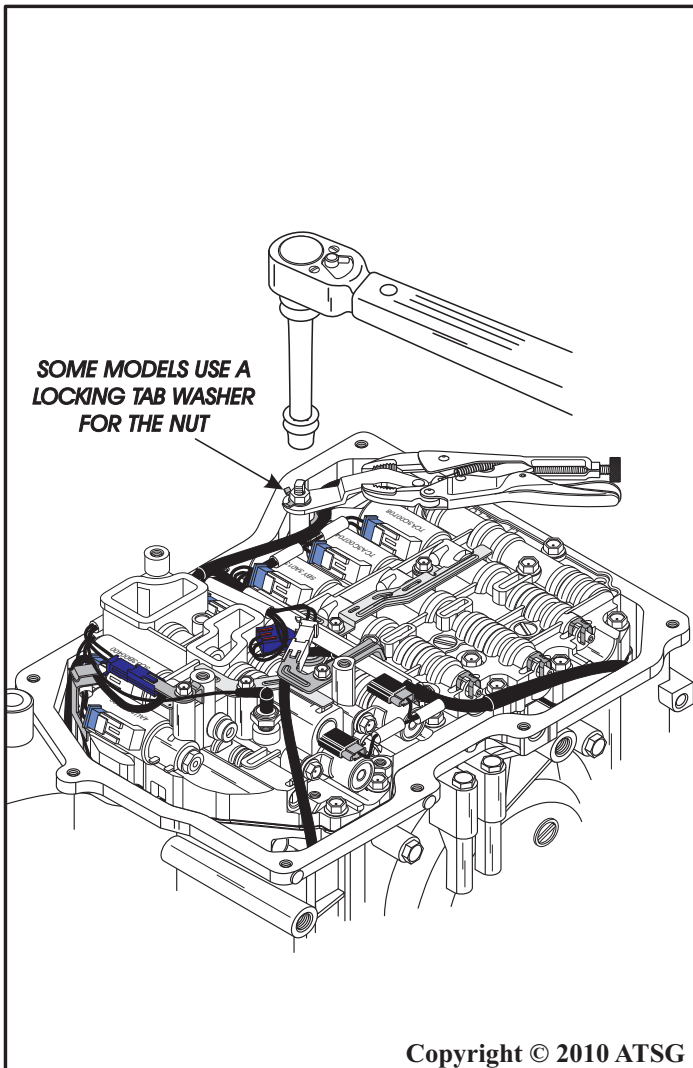

Figure 203
85. Using a pair of vice-grips to hold inside manual lever, as shown in Figure 203, torque the manual lever nut to 7 N·m (62 in.lb.).